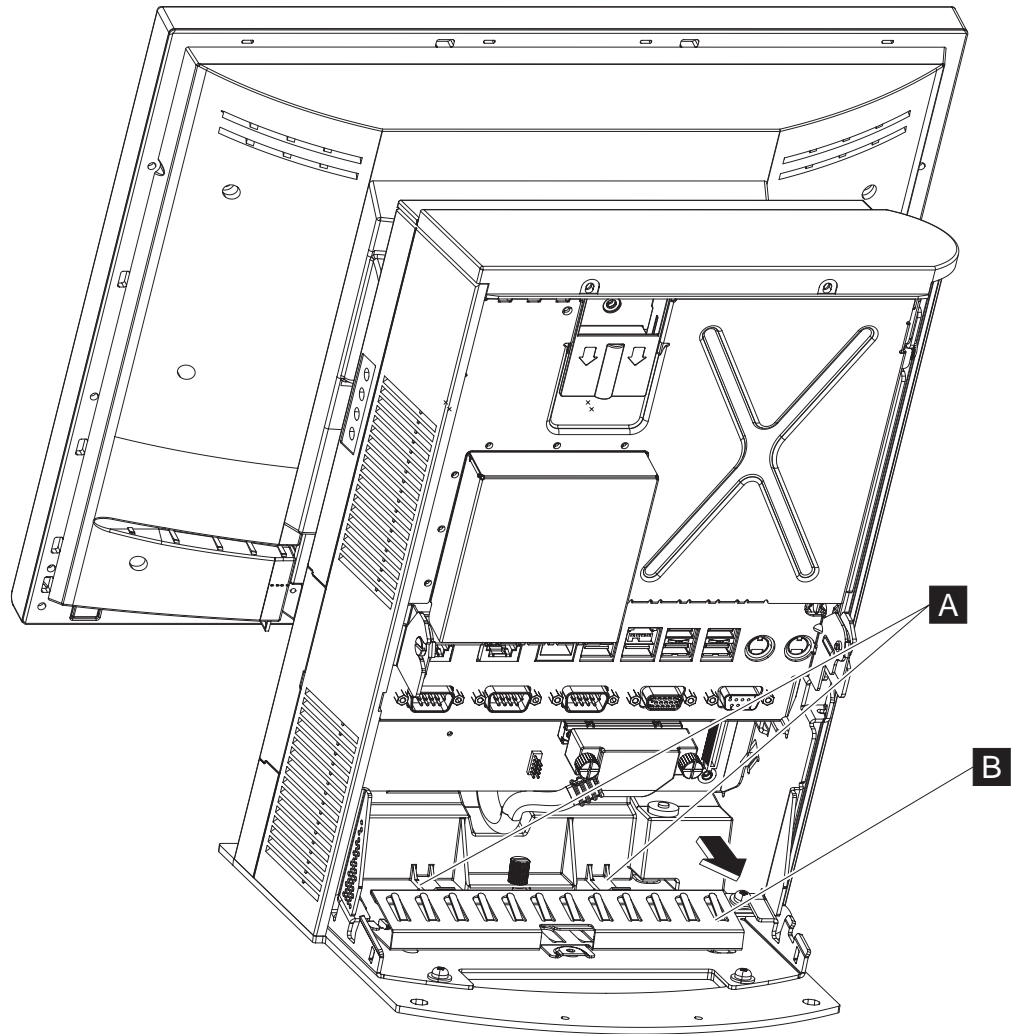

Figure 33. Speaker
5. Remove the grounding shield (**B** in Figure 33) by loosening the screw that secures it to the bottom of the system unit.
6. Lift up on the two tabs (**A** in Figure 33) and pull back to remove the speaker. If a thumbscrew is present on speaker, loosen the thumbscrew before lifting tabs.